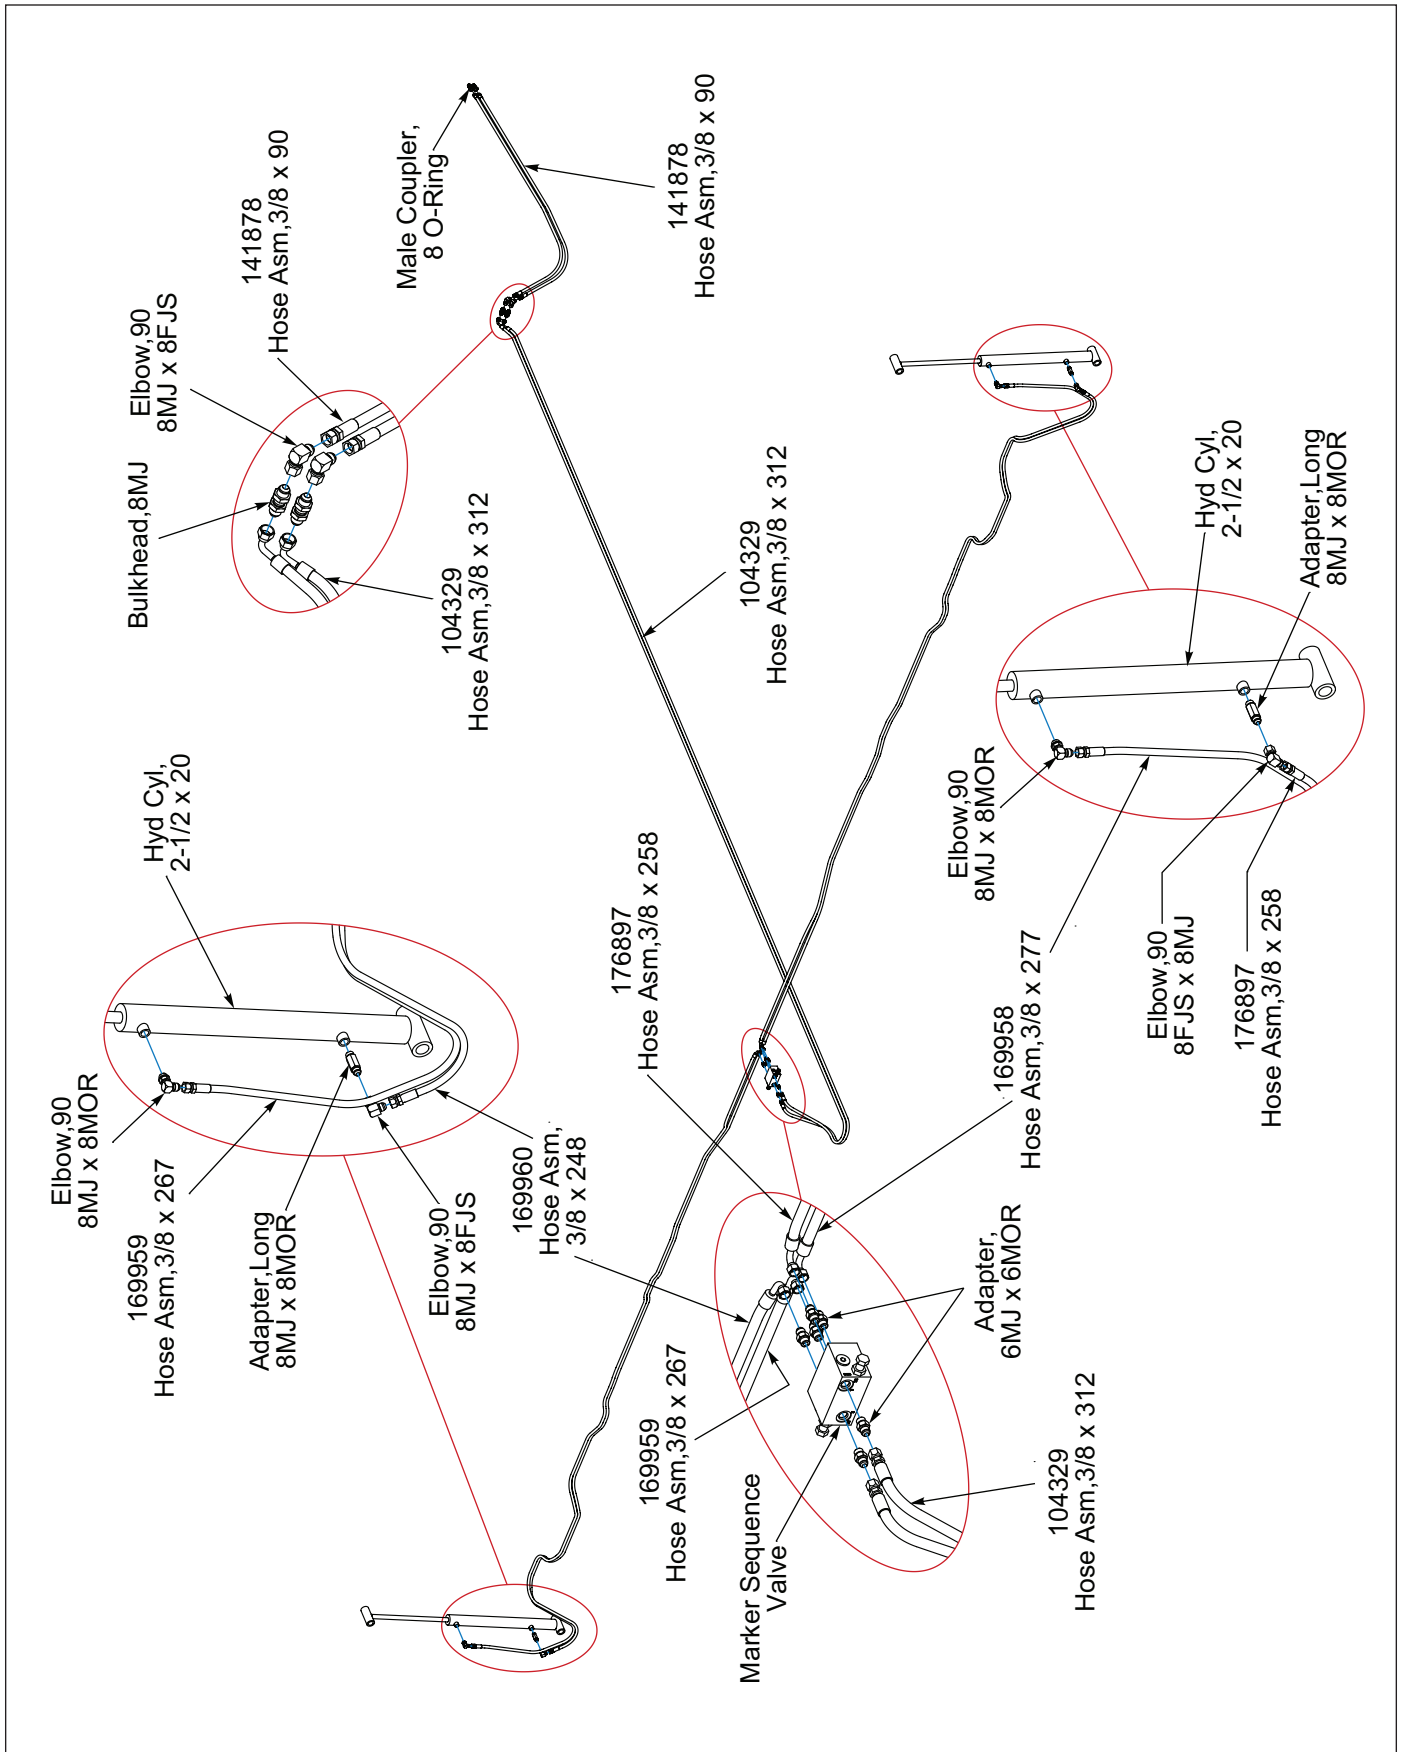

Figure 2-37: Row Marker Hydraulic Schematic
3. Route through the Folding Seeder Hitch Frame Tube, the 3/8 x 312 Hose Assemblies with the 90 degree hose ends to the front and the straight hose ends to the rear. Attach straight hose ends to the Marker Sequence Valve ports A1 and B1. **See Figure 2-37.**